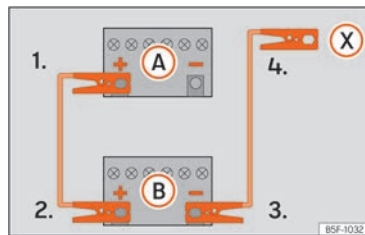

Fig. 162 Diagram of connections for vehicles without Start Stop system
4. *Vehicles without a Start-Stop system:* connect one end of the black jump lead to the negative terminal  of the vehicle providing the current  » Fig. 162.